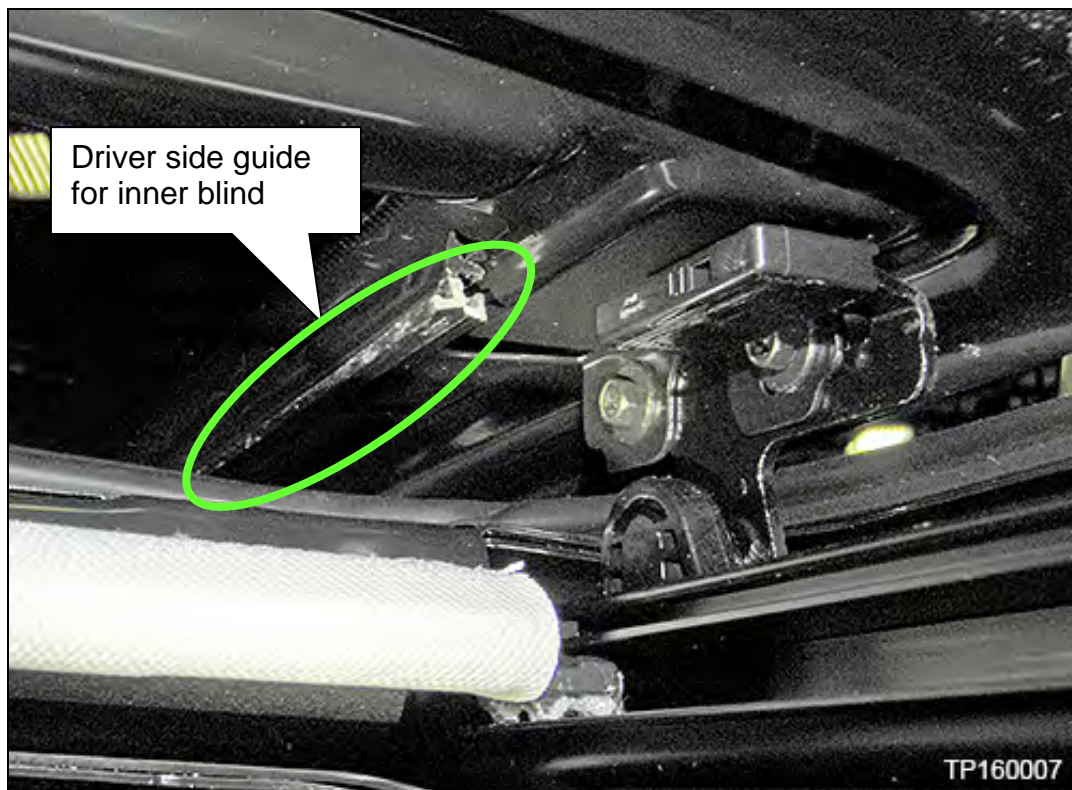

Figure 62
- a. Slide the top of the left and right inner blinds onto their guides (Figure 62).